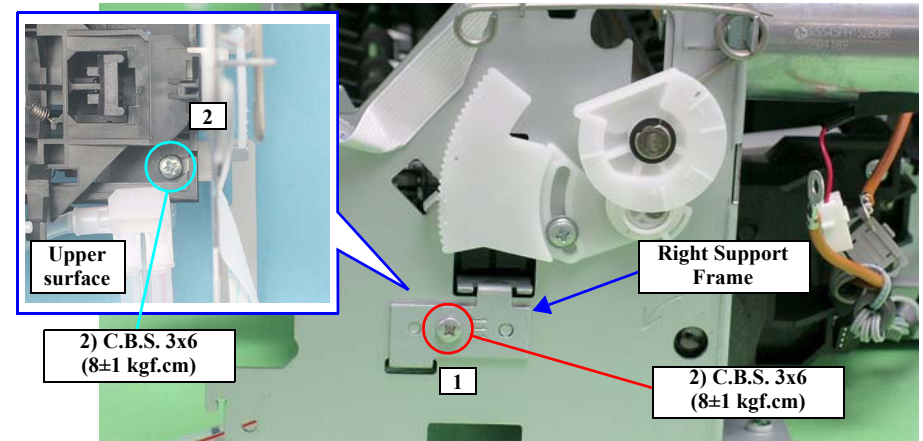

Figure 4-101. Removing the Right Support Frame
- Tighten the screws in the order shown in Figure 4-101.